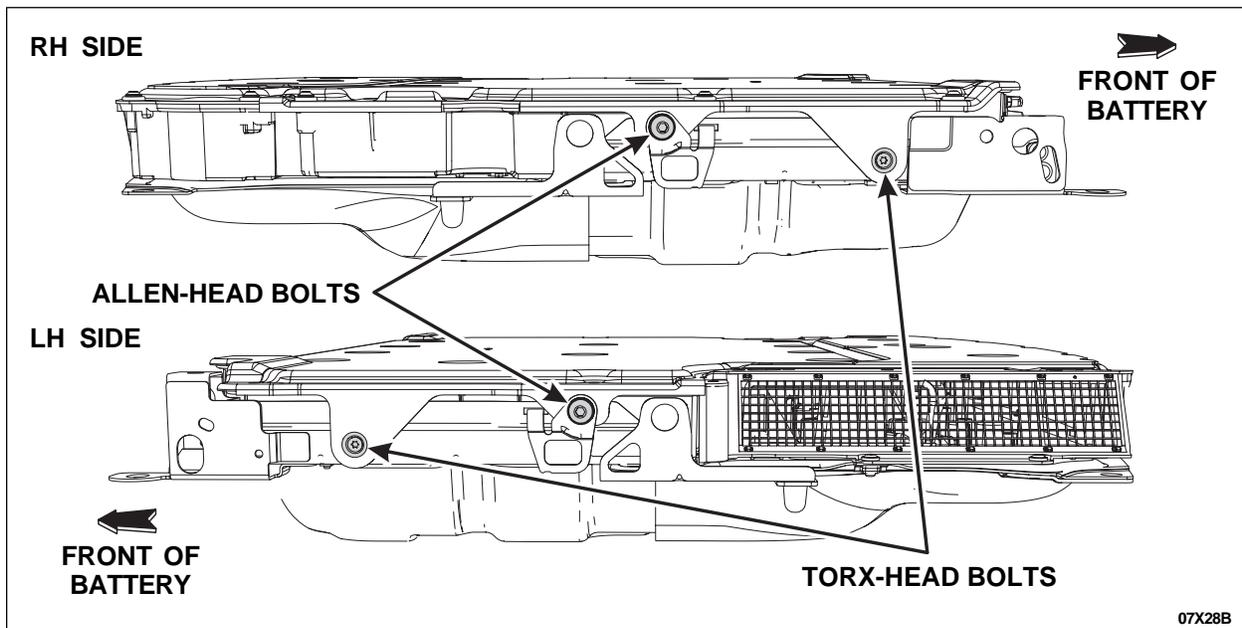

FIGURE 2
2. Remove the Allen-head bolt and Torx-head bolt from both sides of the front battery cover. See Figure 2.